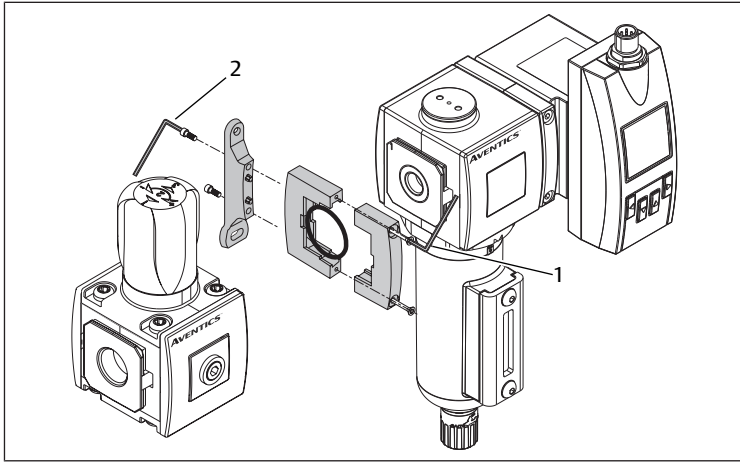

Fig. 7: Assembly with block assembly kit
3. Mount the product with the block assembly kit. See → Fig. 7.